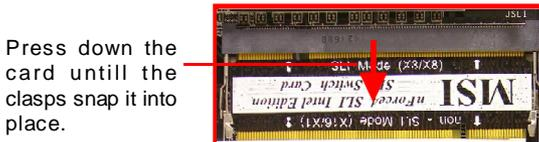

Fig.4
3. Press down the SLI switch card until the clasps on the sides snap the card into place (fig.4). Before installing or removing an NV SLI module, make sure that you unplug the power supply first.